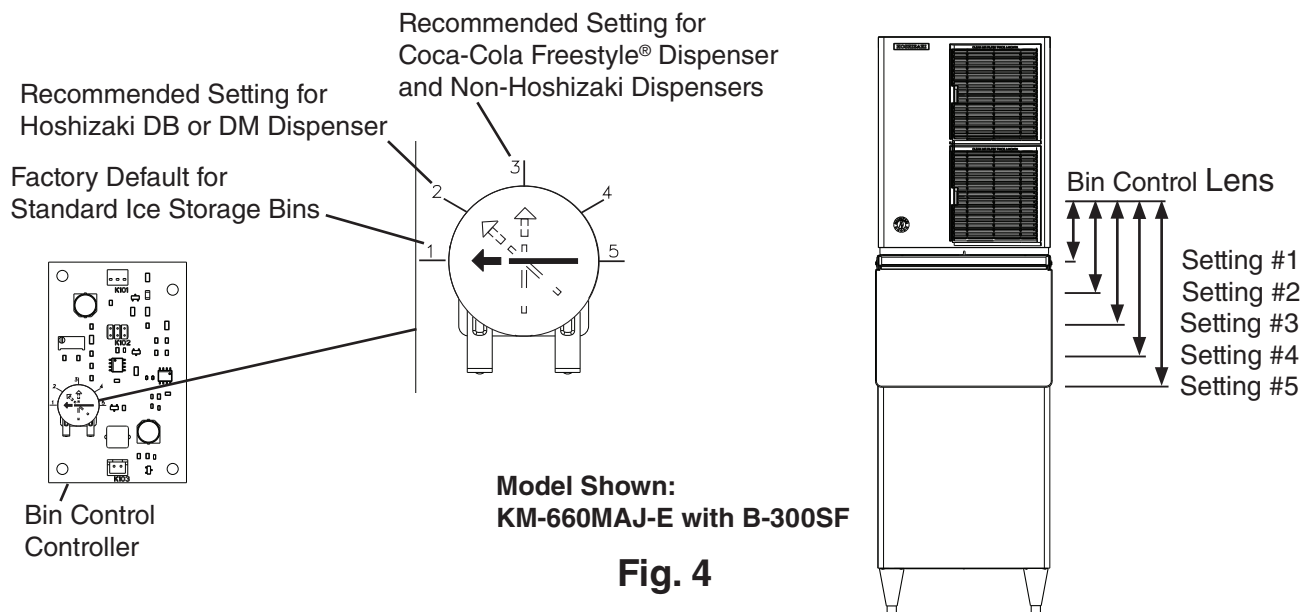

Fig. 4
- 2) Confirm bin control controller setting for proper application. See the table below for settings. See Fig. 4 for ice level reference.